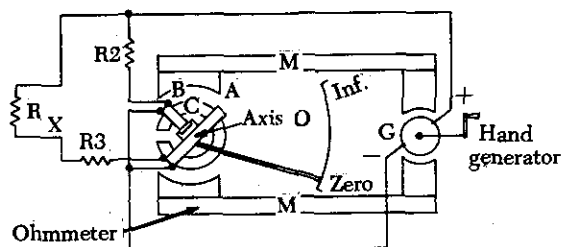

FIGURE 8-140. Simplified megger circuit.
The megger (figure 8-140) consists of two primary elements, both of which are provided with individual magnetic fields from a common permanent magnet: (1) A hand-driven d.c. generator, *G*, which supplies the necessary current for making the measurement and (2) the instrument portion, which indicates the value of the resistance being measured. The instrument portion is of the opposed-coil type. Coils *A* and *B* are mounted on the movable member with a fixed angular relationship to each other and are free to turn as a unit in a magnetic field. Coil *B* tends to move the pointer counterclockwise and coil *A*, clockwise. The coils are mounted on a light, movable frame that is pivoted in jewel bearings and free to move about axis *O*.